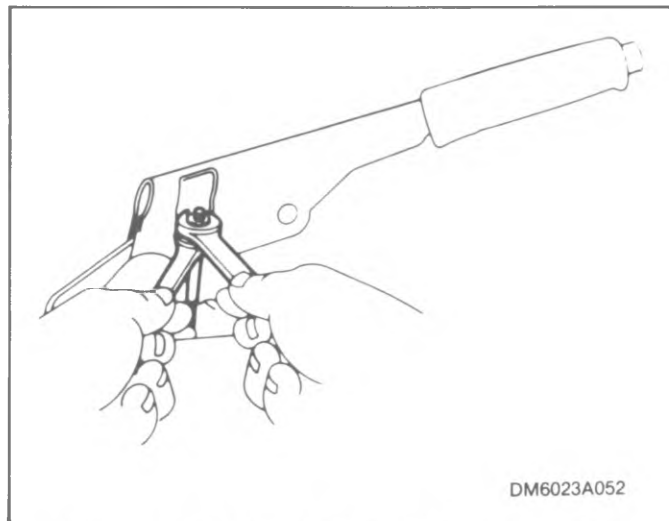

Figure 4-7. Adjusting Nova Parking Brake
1. Loosen the locknut and turn the adjusting nut until lever travel is correct (see figure 4-7).